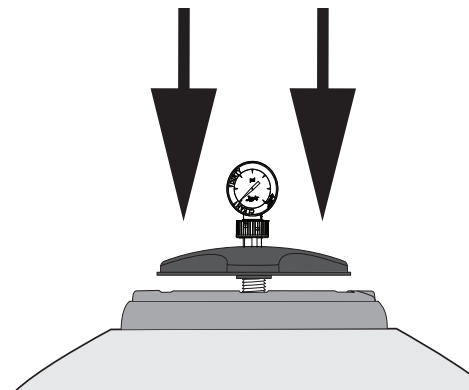

Figure 8. Tap to Release O-Ring
2. Press down on the hand wheel firmly to release the O-ring. Fig. 8